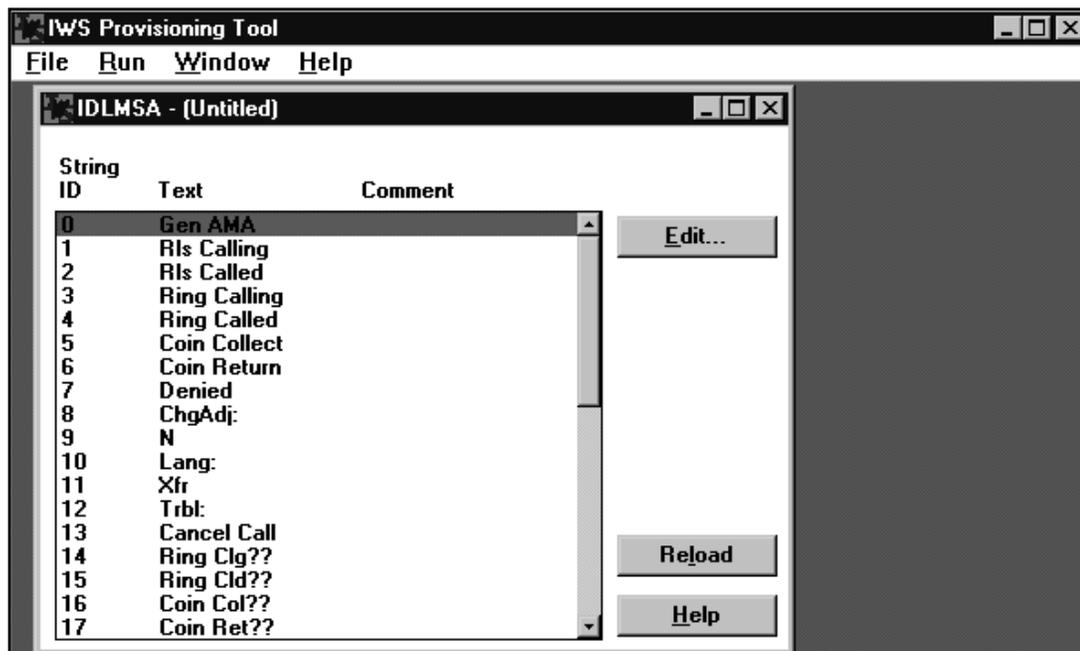

FIGURE 115. Example of language file dialog box
4. Select a file from the listing; for example, file IDLMSA. (See Figure 115.)